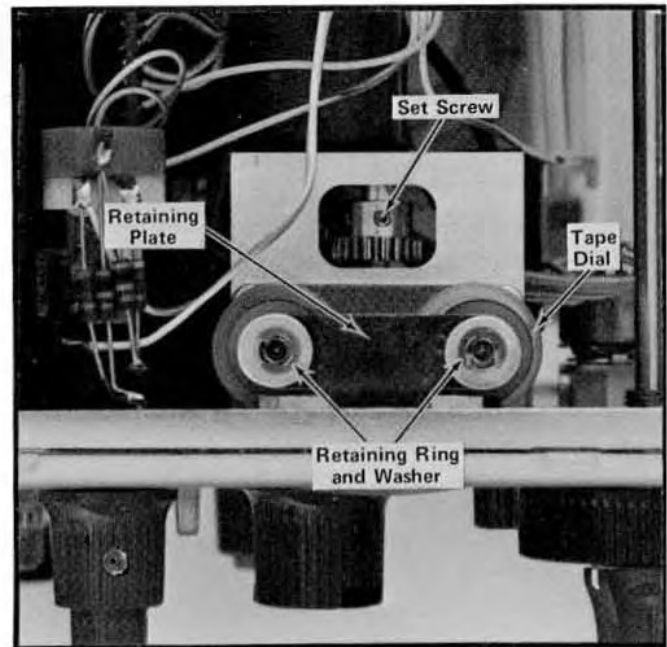

Fig. 4-1. Component locations for tape dial replacement or adjustment.
3. Using a sharp instrument (small screwdriver, etc.), remove both retaining rings from the posts. See Fig. 4-1.
2. Using an .050 Allen wrench, loosen the setscrew shown in Fig. 4-1.